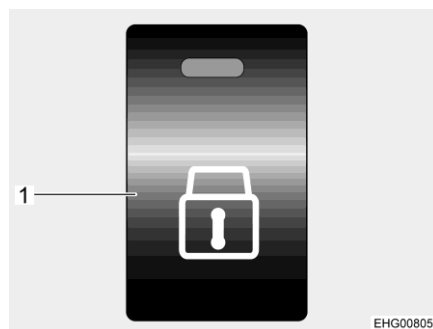

Fig. 54 Central locking system switch
- Unlocking:** ■ Press the button (Fig. 54,1). The door locks are unlatched.
- Locking:** ■ Press the button (Fig. 54,1). The door locks are locked. The indicator lamp in the button lights up.